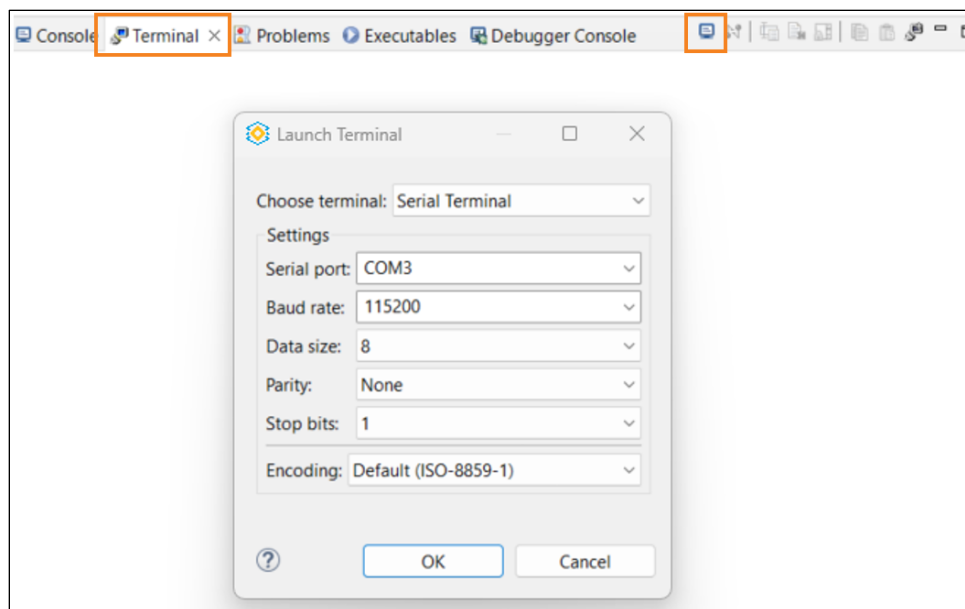

Figure 8.3. Launching Serial Terminal
2. Launch the Serial Terminal as shown in the example in Figure 8.3. Note that the serial port may vary from host to host.